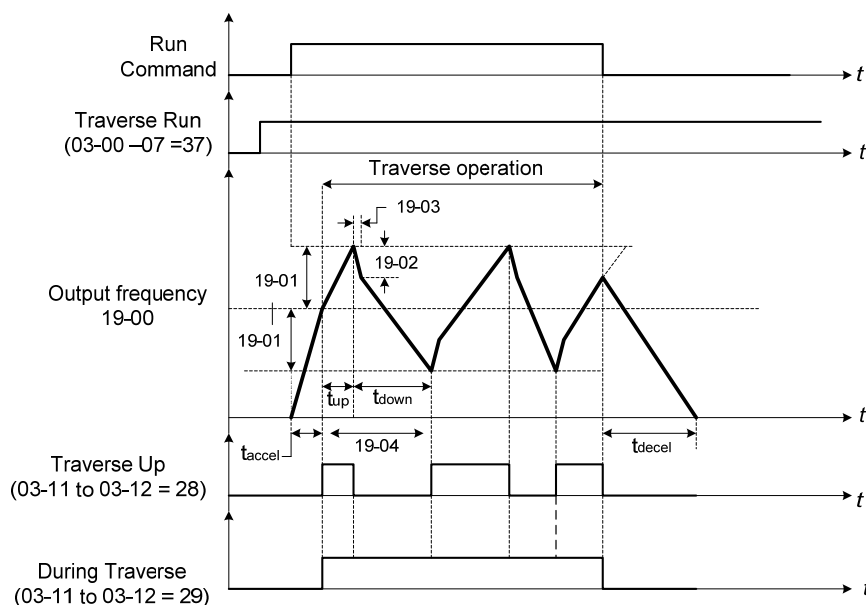

Figure 4.3.105 ON/OFF control of wobble
- Refer to the following figure 4.3.105 for the ON / OFF control of wobble